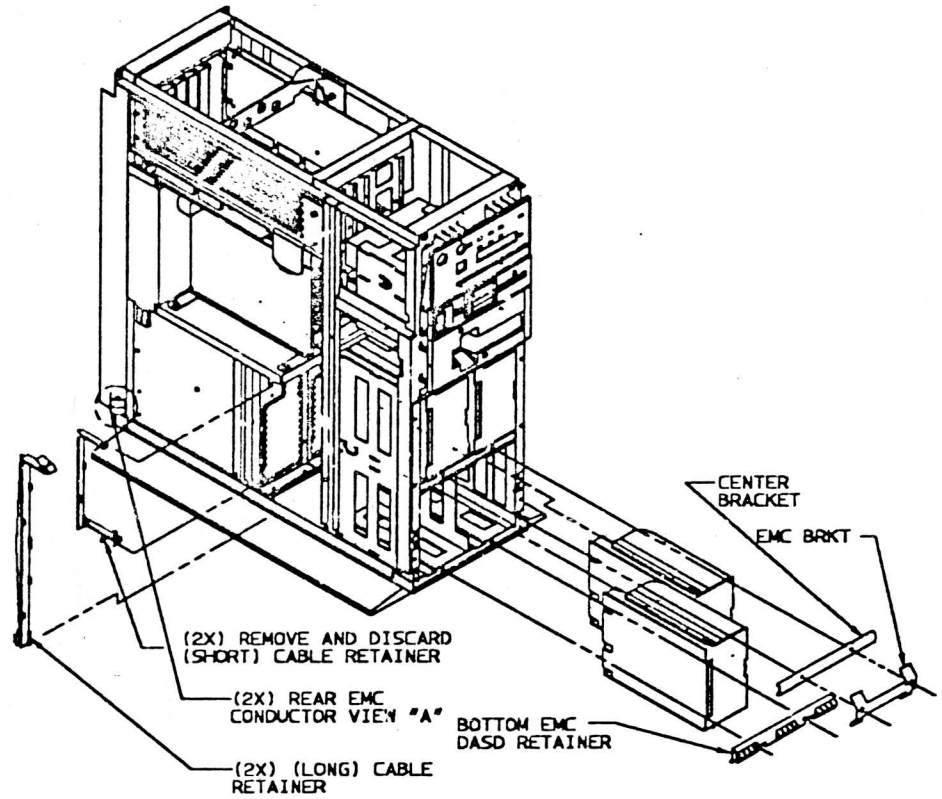

Figure 3
- Note:** DASD retainer brackets are to be installed as shown in Figure 3.